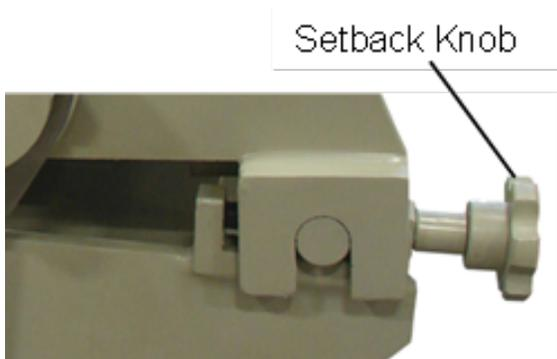

Figure:7-2
3. Using the two setback knobs at the rear of the brake (fig. 7-2), move the fingers forward until they are almost touching the bending wing.